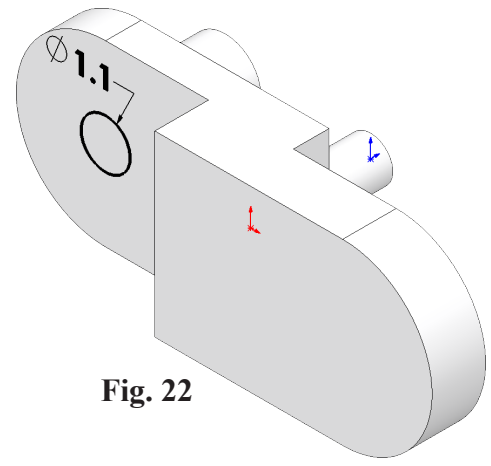

Fig. 22
Step 3. Click **Circle** (S) on the Sketch toolbar.
Step 4. Sketch circle concentric with circular edge, **Fig. 22**. To wake up centerpoint, hover cursor over circular edge.
Step 5. Click **Smart Dimension** (S) on the Sketch toolbar.
Step 6. Dimension **diameter 1.1**, **Fig. 22**.